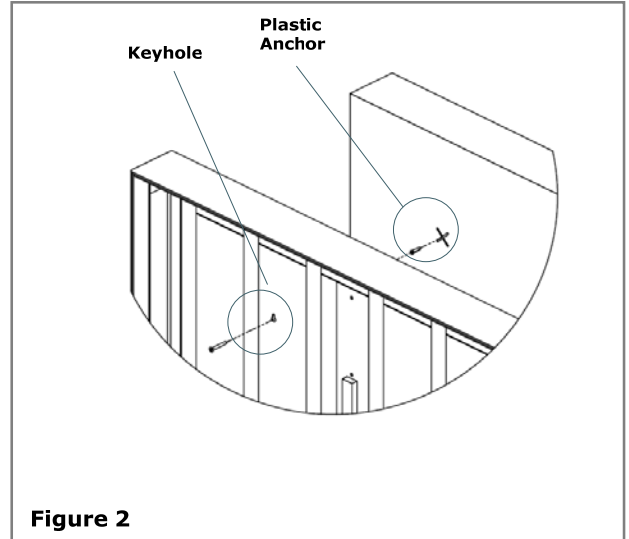

Figure 2
1. If keyholes have been provided, hold the unit against the wall in the desired location and mark the positions of the mounting screws through the tops of the keyhole slots. **See Figure 2.**
2. Using ¼" drill bit, drill through the marks and install the plastic anchors. **See Figure 2.**